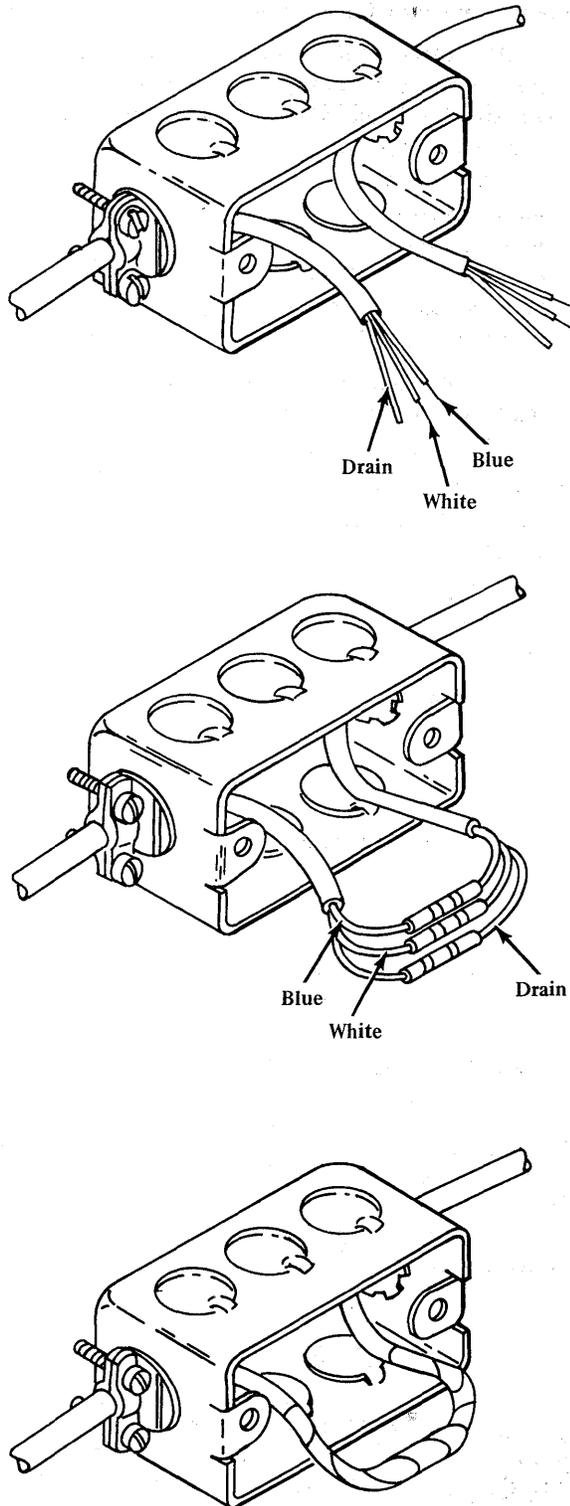

Figure 3-12. Junction box splice
- ( ) Splices between entry stations are to be made with cable strain reliefs on each side of the splice. Splice crimp connectors are supplied by IBM with each station connector. Figures 3-12 and 3-13 show the two ways a splice can be made and the cable strain relieved.